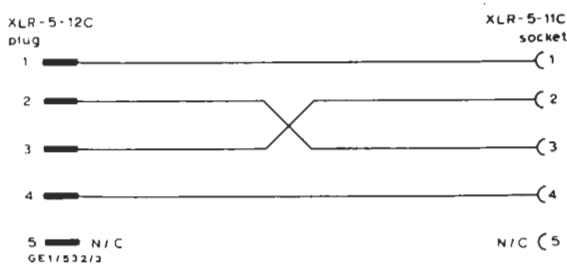

Fig. 3. Test lead for the GE1L/532
- Genlock lead connected as shown in Fig. 3.